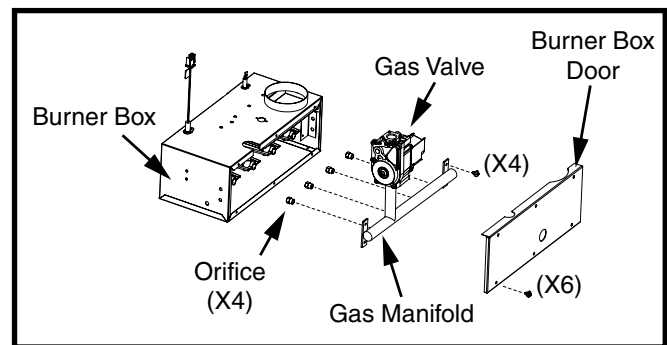

Figure 19. Orifice Removal
8. Carefully remove four screws securing the gas manifold assembly to the burner assembly. See Figure 19 (page 20).